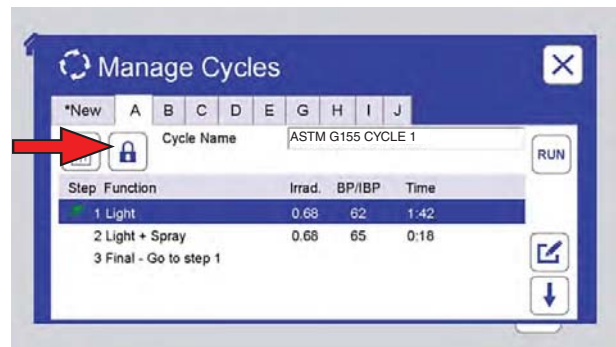
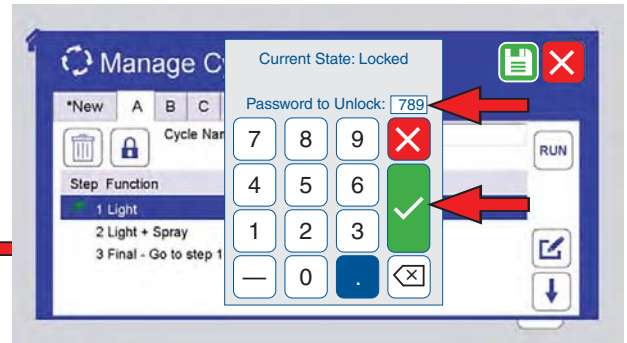

Figure 10.6.3a: Touch the lock icon to lock the cycle. **NOTE:** Pre-programmed test cycles are locked by Q-Lab.
Figure 10.6.3e: To unlock a cycle, touch the lock icon, enter the password, then touch the check mark button.
- Lock a cycle to prevent unauthorized changes (Figure 10.6.3a through Figure 10.6.3e).